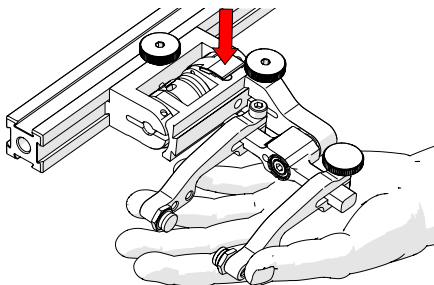

Fig. 178 - Lift slightly and press latch
2. Lift probe holder slightly and press the latch button (Fig. 178) to release the probe holder the full 45° degrees.